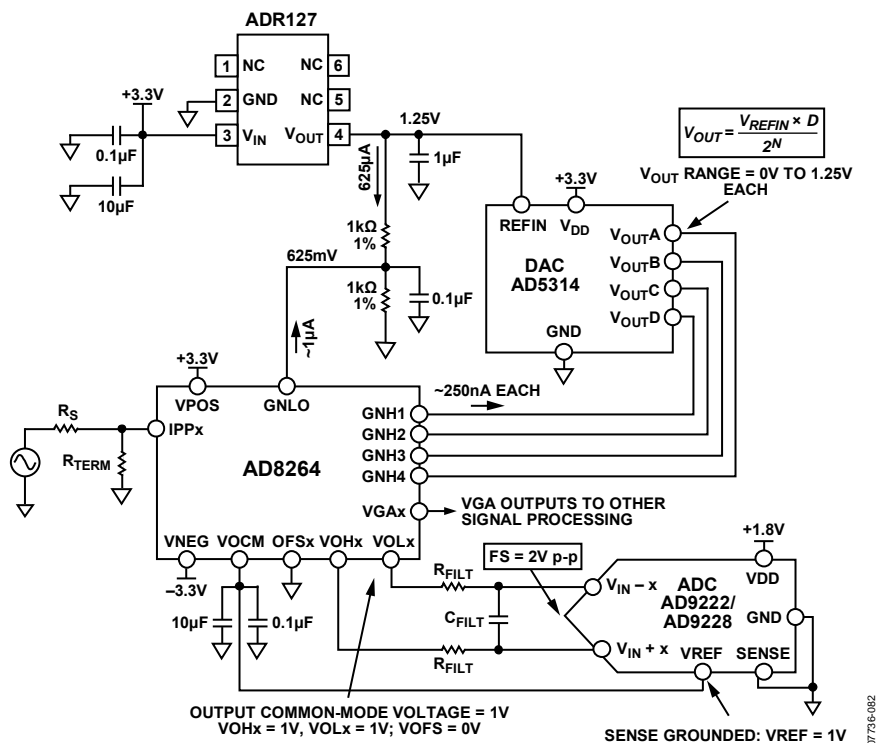
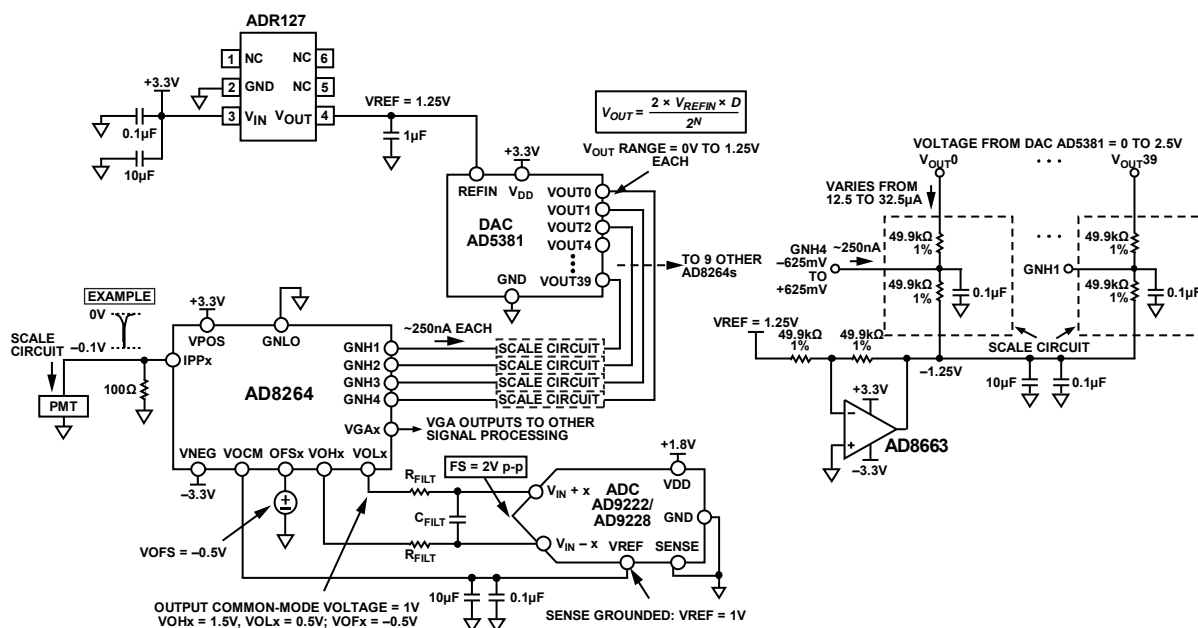

Figure 112. Application Concept of the AD8264 with the AD5314 10-Bit DAC and the AD9222/AD9228 12-Bit ADC
Figure 113. Concept Application of AD8264 with 40-Channel AD5381 12-Bit, 3 V DAC and AD9222/AD9228 12-Bit ADC
The AD8264 is particularly well suited for use in the analog front end of medical PET imaging systems. Figure 112 shows how the AD8264 may be used with the AD5314 (a 4-channel, 10-bit DAC) and the AD9222/AD9228 (an octal or quad, 12-bit ADC, respectively). The DAC sets the gain of the AD8264. Note that the full gain span of 24 dB is achieved with this setup because the gain control input range of the AD8264 is very close to 1.25 V. The GNLO pin must offset by $1.25/2 = 625$ mV because the gain control input is bipolar around the voltage applied at GNLO. This is done with two 1 k Ω , 1% resistors. The approximately 1 μ A of bias current flowing from the GNLO pin does not contribute a significant error because the basic gain error of the AD8264 is the limiting factor.
Figure 112 also includes the DAC output equation, which indicates that the output can vary between 0 V and $V_{\text{REF}} = 1.25$ V.
The single-ended-to-differential amplifier of the AD8264 amplifies the VGA output signal by 6 dB and can provide the required dc bias of the AD9222/AD9228, as shown in Figure 112. The ADC is connected with the default internal reference because the SENSE pin is grounded. With this connection, the AD9222/AD9228 V_{REF} pin is an output that provides 1 V; this is then connected to the V_{OCM} input of the AD8264, which sets the output common-mode voltage of the V_{OHx} and V_{OLx} pins to 1 V. This voltage is very close to the recommended optimal value of $V_{\text{DD}}/2 = 0.9$ V. With this configuration, the ADC inputs are set to a full-scale (FS) of 2 V p-p.
The dc connected concept example in Figure 113 is an application with the 40-channel AD5381, 3 V, 12-bit DAC. The main difference between this example and Figure 112 is that, for the same AD9127 1.25 V reference, the full-scale output of the DAC is from 0 V to $2 \times V_{REFIN} = 2.5$ V. Two options for gain control include the following:
- Use the same circuit as in Figure 112 but use only half the DAC output voltage from 0 V to 1.25 V. This is the simplest solution, requiring the fewest extra components. Note that the overall gain resolution increases by one bit to 11 bits over the 10-bit AD5314.
- Ground GNLO and scale the DAC output so that the GNHx inputs vary from -0.652 V to $+0.625$ V. Figure 113 shows a possible circuit implementation using a divider between the DAC output and a -1.25 V reference.
Figure 113 shows how the AD8264 is connected in a PET application. The PMT generates a negative-going current pulse that results in a voltage pulse at the preamplifier input and a differential output pulse on VOLx and VOHx.
A convenient method of verifying and customizing the signal chains shown in Figure 112 or Figure 113 is by ordering the corresponding evaluation boards available on www.analog.com. The AD8264-EVALZ is a platform through which the user can quickly become familiar with the features and performance capabilities of the AD8264. See the Evaluation Board section for more information.